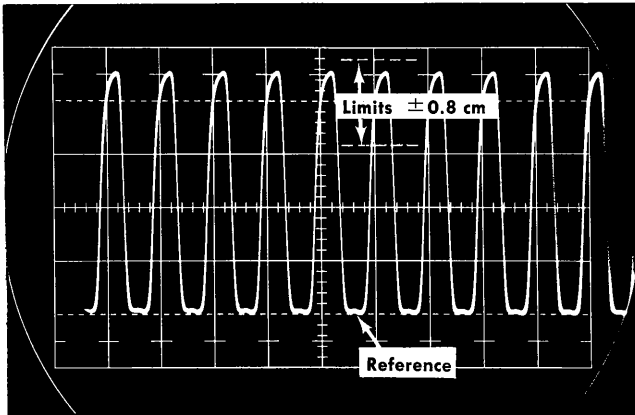

Fig. 5-5. Display of Trigger Output signal.
d. Set the Volts/cm switch to .05 and the Mode switch to CH 1. Set the Time/cm switch to .1 μs and the Triggering controls for a stable display, see Fig. 5-5.